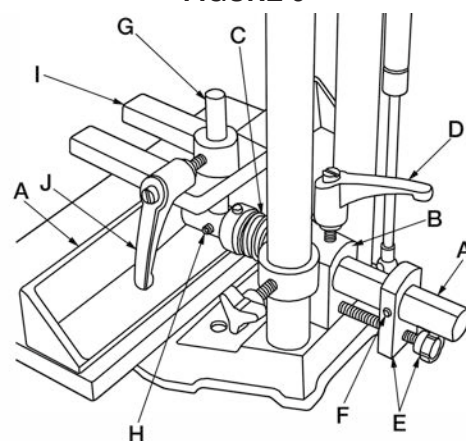

FIGURE 7
Insert the bar (A) Fig.7 of the fence and bar assembly (A) into the guide bracket (B), make sure the spring (C) is in place on the bar as shown. Tighten the lock handle (D) to secure the fence position.
Slide the stop bracket and knob assembly (E) Fig.7 on the end of the fence bar (A), slide it up against the guide bracket (B), tighten set screw (F).
Insert hold down bar (G) Fig.7 into hole on top of fence bar (A) as shown and tighten set screw (H) to secure the bar. Slide the hold down (I) onto the bar (G) as shown and tighten lock handle (J) to secure the hold down.